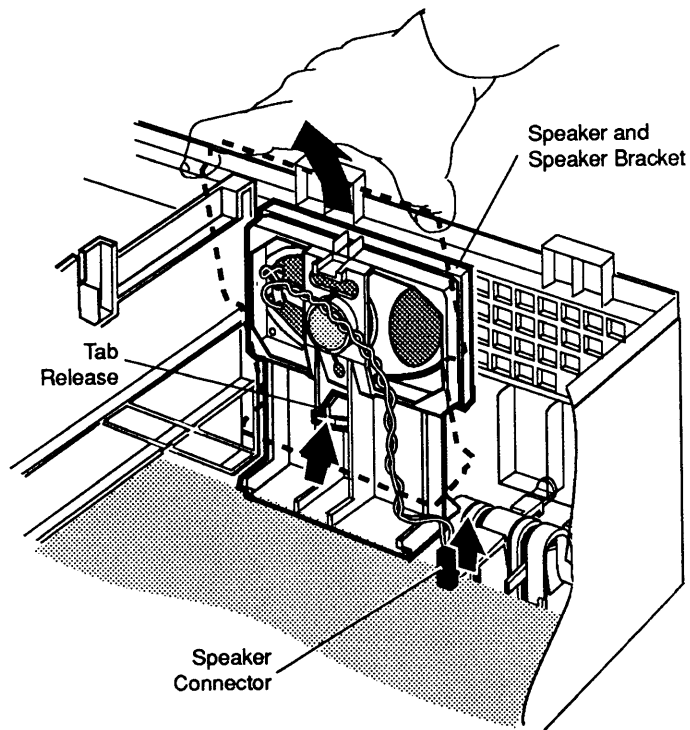

Figure 2-2 Speaker and Speaker Bracket
2. Locate the speaker and speaker bracket (see **Figure 2-2**) at the front of the unit and disconnect the speaker connector from the main logic board.
3. Gently lift the tab in the center of the speaker bracket (see **Figure 2-2**). Pull back on the top of the bracket until the bracket is free of the bottom panel.